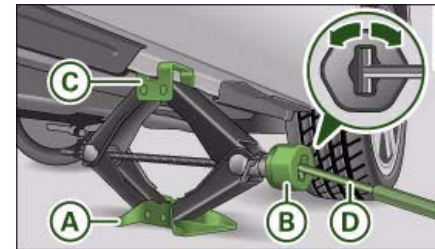

Fig. 244 Changing a wheel: Jack
- Place the jack underneath the **jacking point** closest to the wheel being changed. Make sure the base plate (A) is flat on the ground.
- Wind up the jack by the knob (B) until the claw of the jack (C) completely surrounds the **seam** on your vehicle ⇒ fig. 244. ▶
- Now fit the crank handle **D** onto the jack by inserting it in the opening on the knob ⇒ *page 262*, fig. 244. Turn the crank handle clockwise or anti-clockwise to secure it in place.